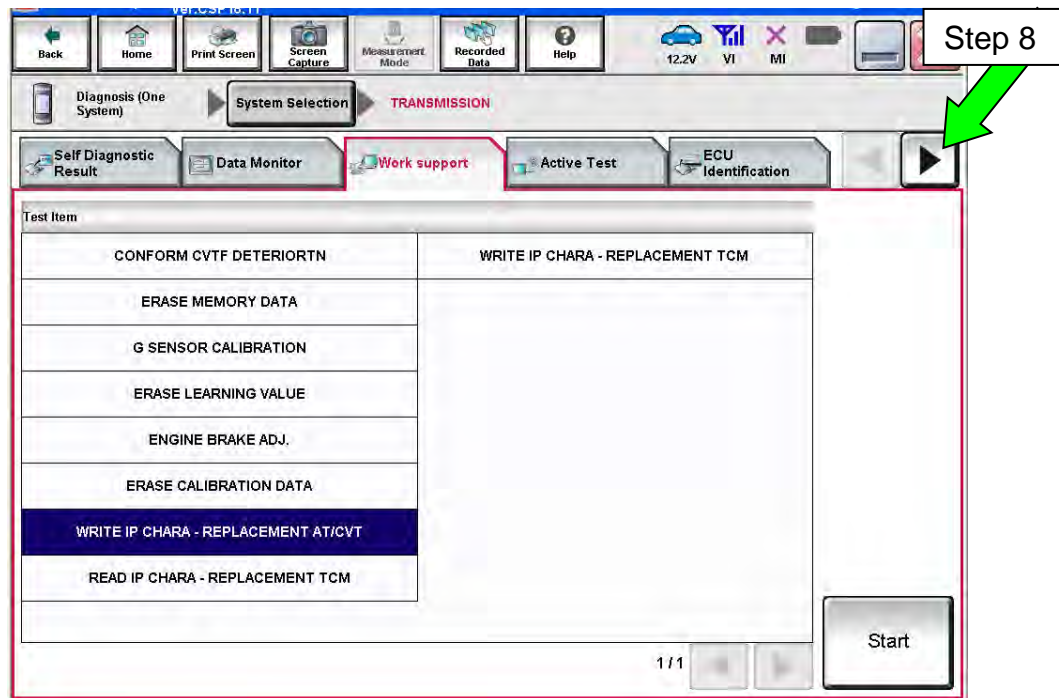

Figure 2F
8. Select the scroll arrow shown in Figure 2F.